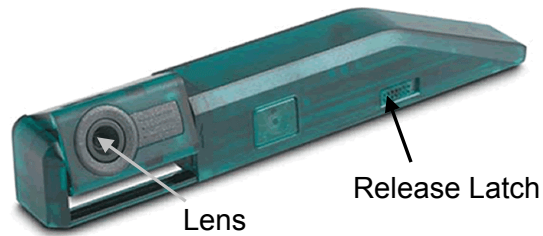

Figure 12-14.- Ultraport Camera.
- 2.5 Release latch to properly secure Ultraport Camera (refer to figure 12-14)
- 2.7 Rotate lens so that lens is directed towards user (refer to figure 12-14)
Move and hold release latch towards angled side of Ultraport Camera and remove Ultraport Camera from PGSC (refer to figure 12-14)